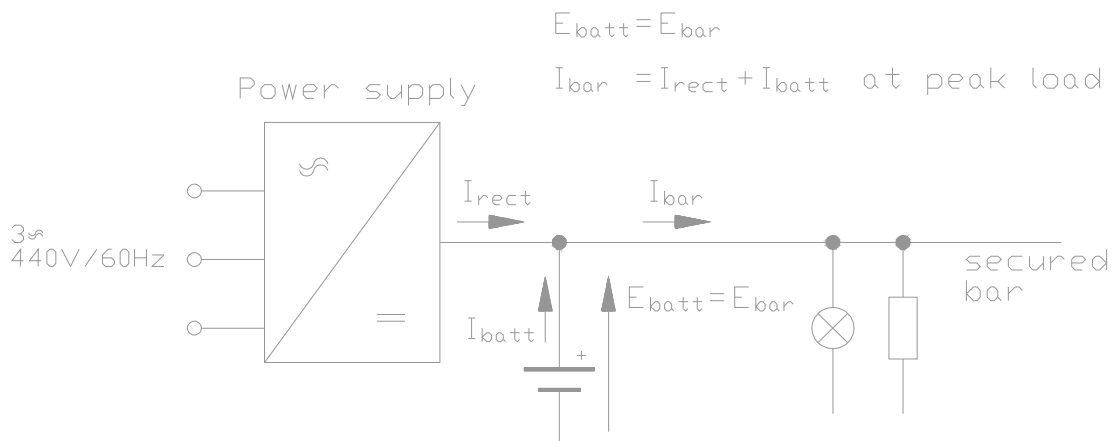

Fig. 2.1 Standby parallel mode of operation
2.1.1 Standby parallel mode of operation (Fig. 2.1).